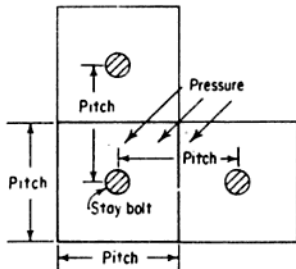

Fig. 9-7. Square pitch plate under pressure.
for the pitch, and factors to be used for various constructions. Two fundamentals should be understood: (1) Figure 9-7 shows pressure acting on a square-pitch flat plate, with a stay bolt in the middle to brace the plate. The force acting on the plate from pressure is the pitch squared minus the stay bolt area times the pressure.